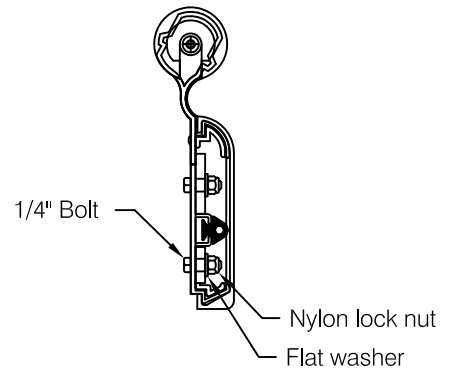

fig 5
**Caution:** Do not use a lock washer, use flat washer only. Always place a flat washer between nut and molded tab. Tighten to 10 ft-lbs maximum torque, see **fig. 5**.